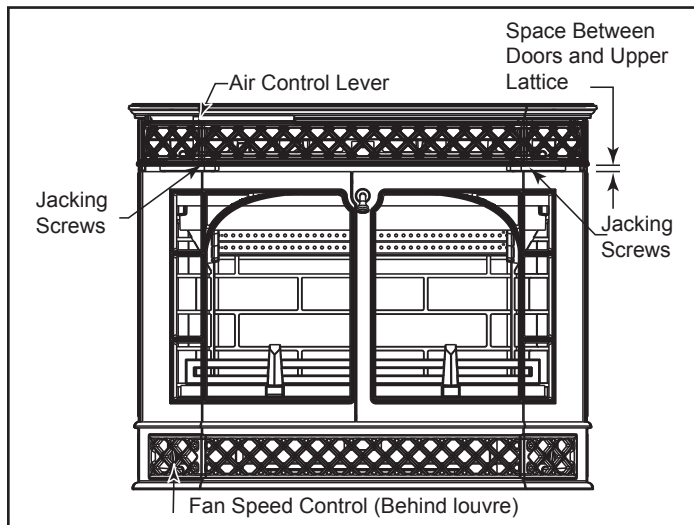

Figure 9 - Merrimack Large Insert controls.
4. Route the blower power cord. Run the power cord out the left or right side of the insert. Remove the two (2) louvre doors (Figure 9) or access doors. Remove the screw and washer from each side holding the ashlip to the front. If you run the power cord out the left side, remove the two (2) screws holding the rheostat bracket to the fan housing. Insert grommet nearest fan in the slot on the fan housing, left or right side. Reattach rheostat bracket with the two (2) screws removed earlier. Remove the cover plate and insert the provided grommet into the slot. Reattach the cover plate.
5. Install Mantel and Access Door. For enamel units: Remove the prepackaged mantel and install the two (2) brackets to the underside of the mantel using four (4) 1/4-20 x 3/8" Phillips head black screws already installed in the mantel. (Figure 8) The brackets can be found in the stove. Remove the screws and use to attach the brackets. For classic black units: Remove the tie strap holding the mantel in place. The brackets are already attached to the mantel. Unwrap the two (2) pre-assembled access doors and snap into place. If the spacing between the doors and upper lattice is not even, you can pull the doors mantel off and adjust the upper lattice. Screw the two (2) jacking screws that contact the front up or down as needed. (Figure 9)
All Merrimack Large Insert controls are conveniently located on the front. (Figure 9)
Figure 9 shows the automatic setback control. Move the primary air control lever all the way to the left. Push the primary control about one more inch to the left to open the air shutter (the lever will spring back automatically when released). The shutter will remain open only if the stove is below its proper operating temperature. Once open, the primary air control lever may be adjusted to any desired position. Once the stove heats up to its proper operating temperature, you will here a clicking sound confirming the shutter has closed. This returns the stove to the output setting of the primary air control.